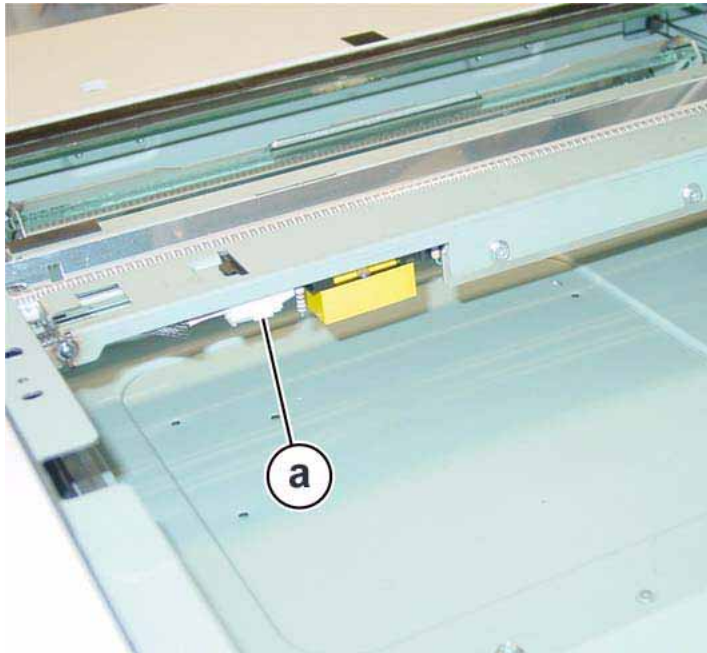

Figure 1 Exposure Lamp connector
- a. Remove (4) securing screws.
6. Disconnect the Exposure Lamp connector. Figure 1